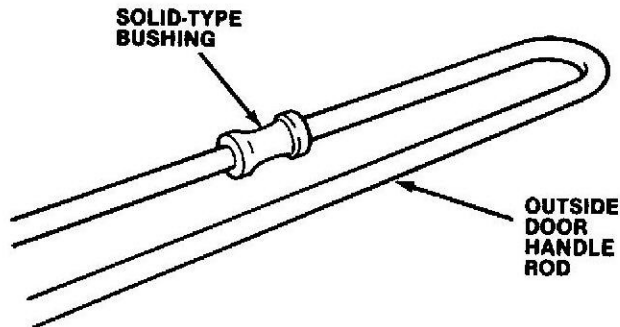

Fig. 2 — Outside Door Handle Rod and Bushing Inspection
- c. Inspect the J-shaped outside door handle rod and bushing assembly. If it is bent or damaged, it must also be replaced. The rod must be equipped with a solid-type bushing as shown in Figure 2.